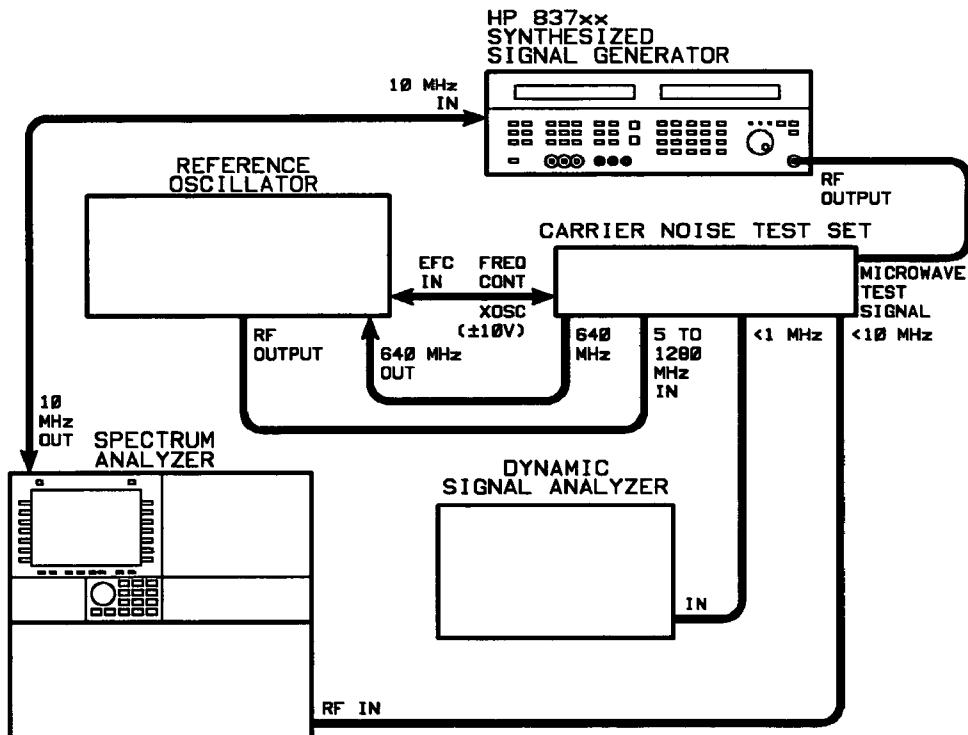

Figure 3-10. Single-Sideband Phase Noise Test Setup
1. Set up the equipment as shown in Figure 3-10.